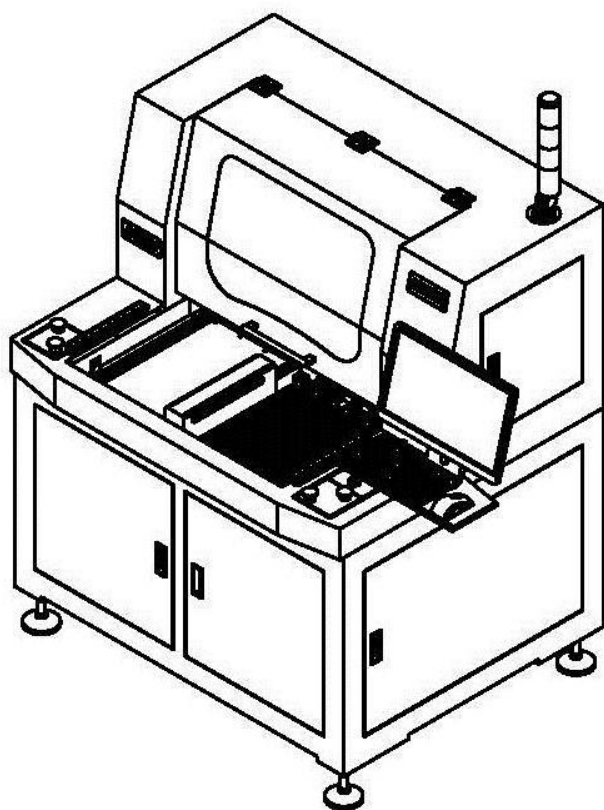

图 4-2-1
(1) check the power off state of the machine and the demolition of the air source pipeline.
(2) the tricolor indicator lamp (as shown in figure 4-2-1-A) lies flat on the machine platform.
(4) disassemble the display (as shown in figure 4-2-1-B) for additional packaging.
(5) the keyboard seat (such as figure 4-2-1-C) is fixed on the machine.
(6) the machine can hold the four doors open in the plastic wrap.